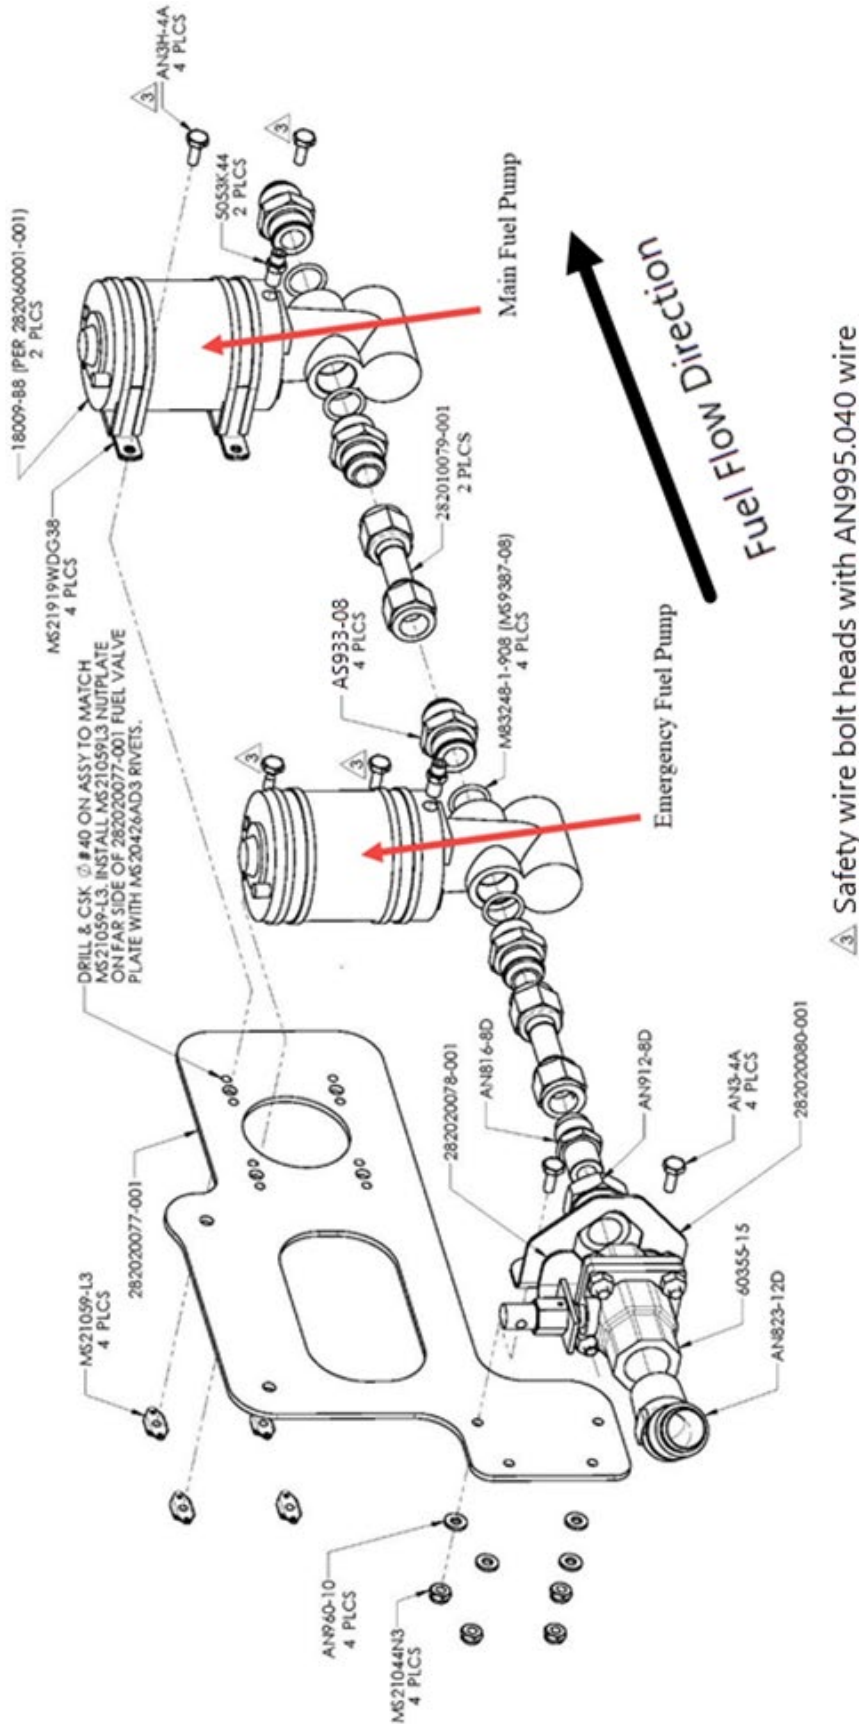

Figure 72-8
- a) Using existing fuel pumps and fuel shutoff valve assembly, assemble the fuel pump plate assembly per Figure 72-8 & 72-9.